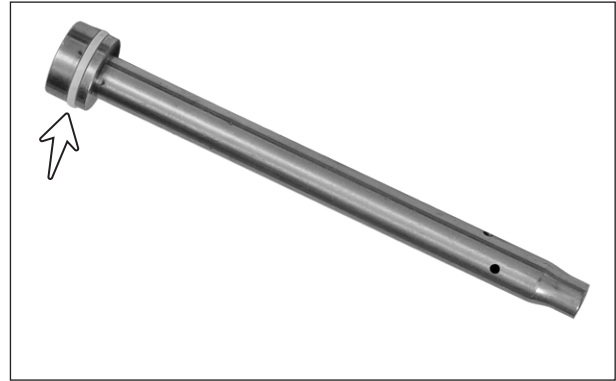

Fig. 6.61
- Inspect the piston front fork and ring damper piston for wear and any damage. (Fig.6.61) Replace with new ones if any damage is noticed.